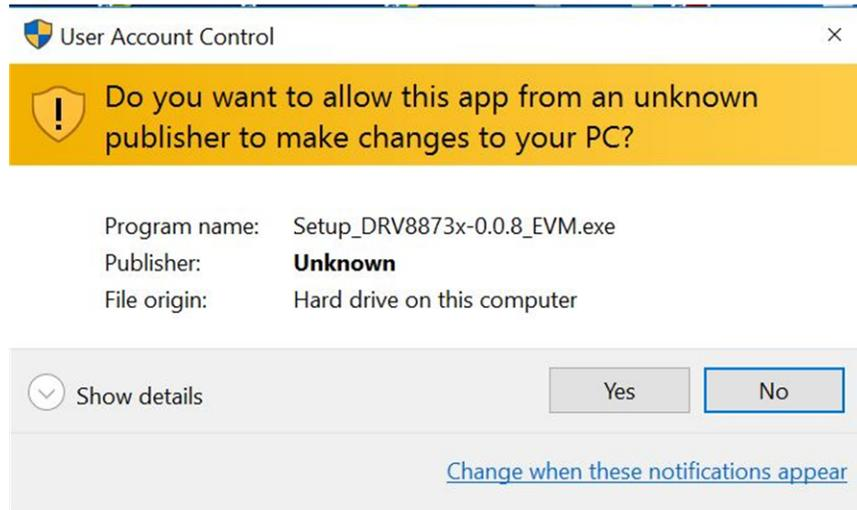

Figure 4. User Account Control
- Step 2. Click the *Yes* button in the *User Account Control Window* to continue (see Figure 4).